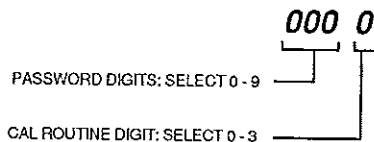

Figure 6-7. CAL Password and Routine Digits
- (1) Press and HOLD the PRINT/ENTER pushbutton until the PRINT caret is illuminated.
- (2) Press the PRINT/ENTER pushbutton three more times to illuminate the CAL caret and display the CAL date.
- (3) Press the FUNCTION ▼ pushbutton. The display shows the password and function digits (see Figure 6-7). Note that the left-most digit is flashing.